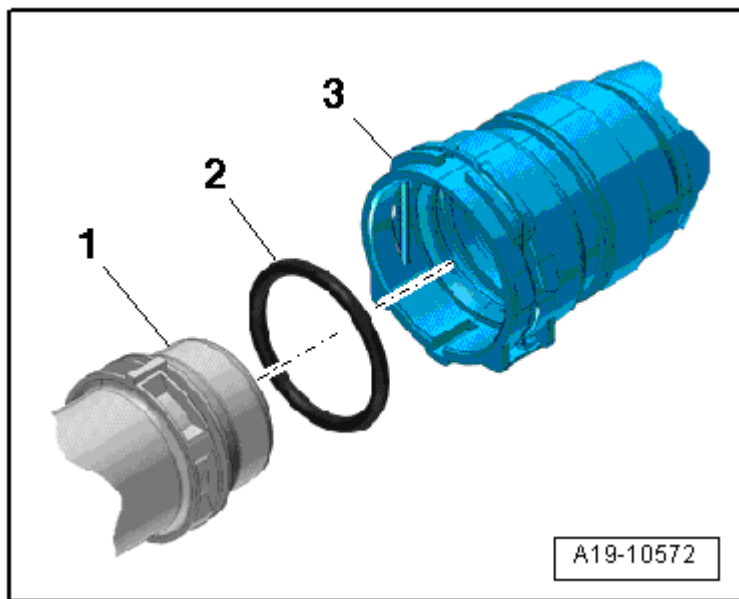

Fig. 130: Connecting Coolant Hose To Coupling
-- Connect the coolant hose to the coupling. Refer to **Fig. 130**.